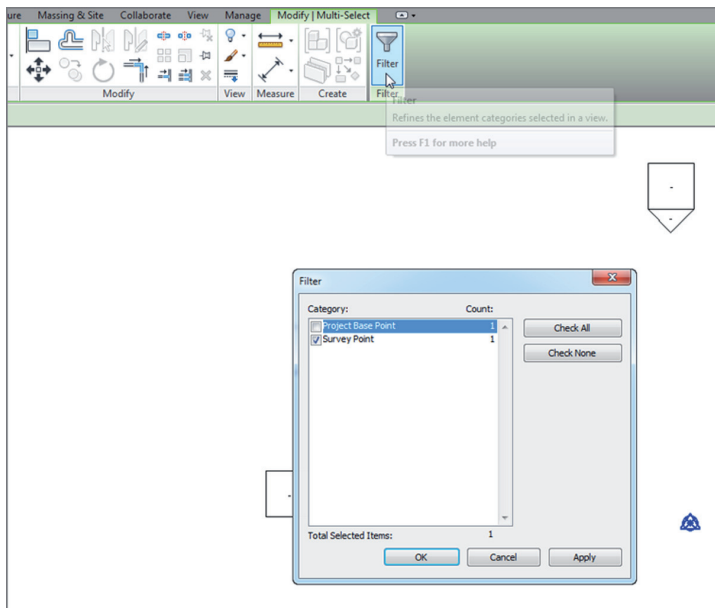

FIGURE BC3.25: Selecting the project datum
4. Deselect Project Base Point, as shown in Figure BC3.25.